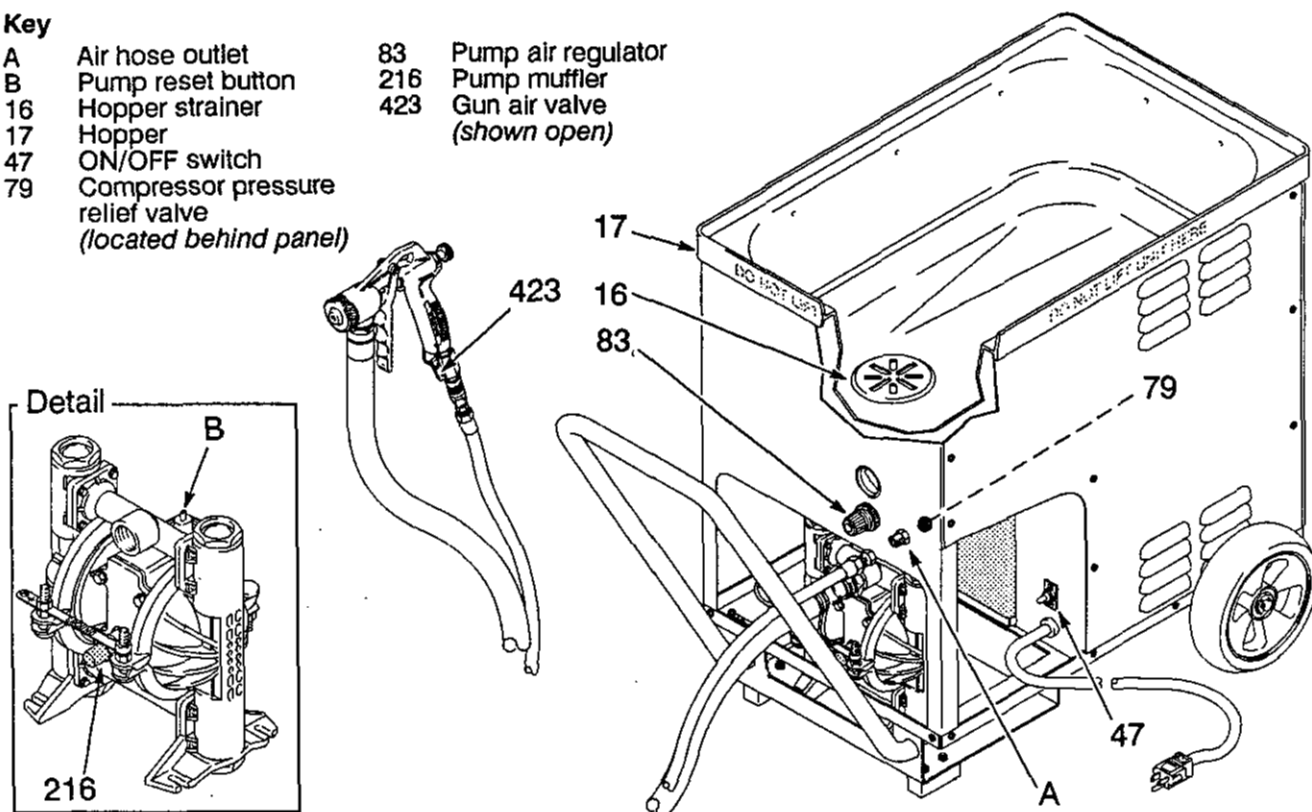

Fig 7-1
3. A compressor pressure relief valve (79) is located behind the cart's front panel. Air escapes from the valve, causing a popping sound, when air to the pump or the gun is at minimum pressure. The valve resets automatically when air to the pump or gun is increased at the regulator (83). See Fig 7-1, page 7.
4. If air exhausts through the pump muffler (216) or the pump starts and then stops, press down the pump reset button (B). See Detail A in Fig 7-1, page 7.
NOTE: Refer to Fig 7-1, page 7, for this procedure.